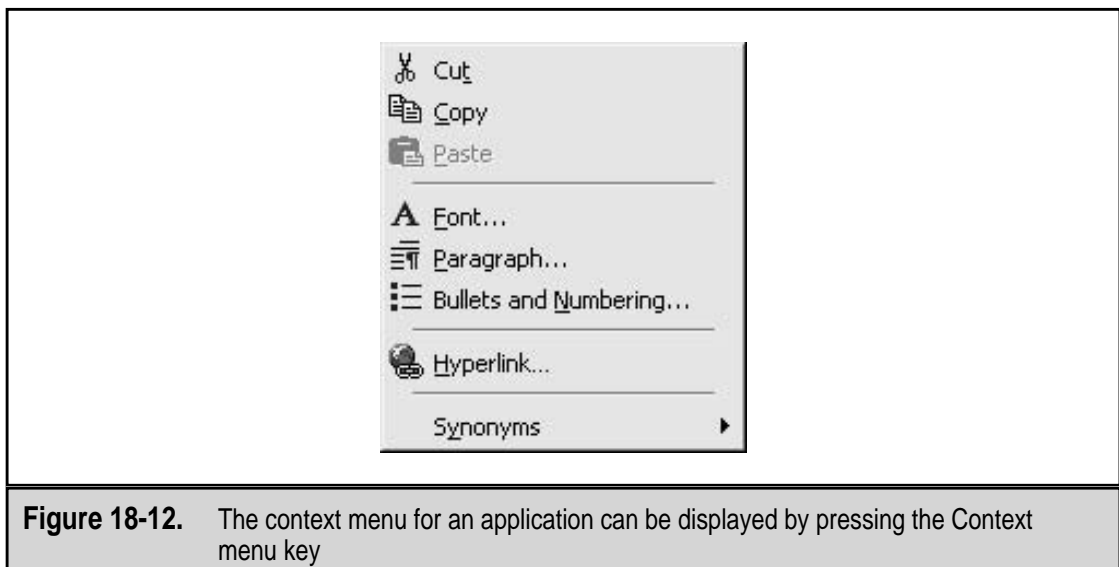

Figure 18-12. The context menu for an application can be displayed by pressing the Context menu key
- ▲ **Context menu key** This key is located on the right side of the SPACEBAR between the Windows key and CTRL. Pressing the context menu key performs the same action as right-clicking anywhere on the display—it pops up the context menu (also called the shortcut menu) for the current application (illustrated in Figure 18-12).